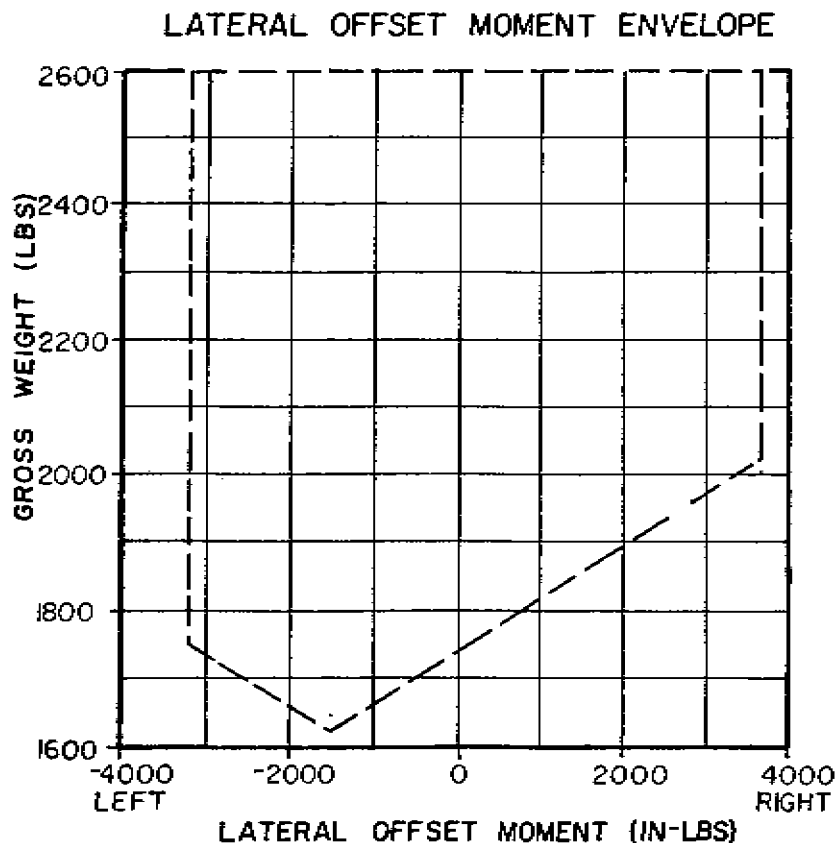
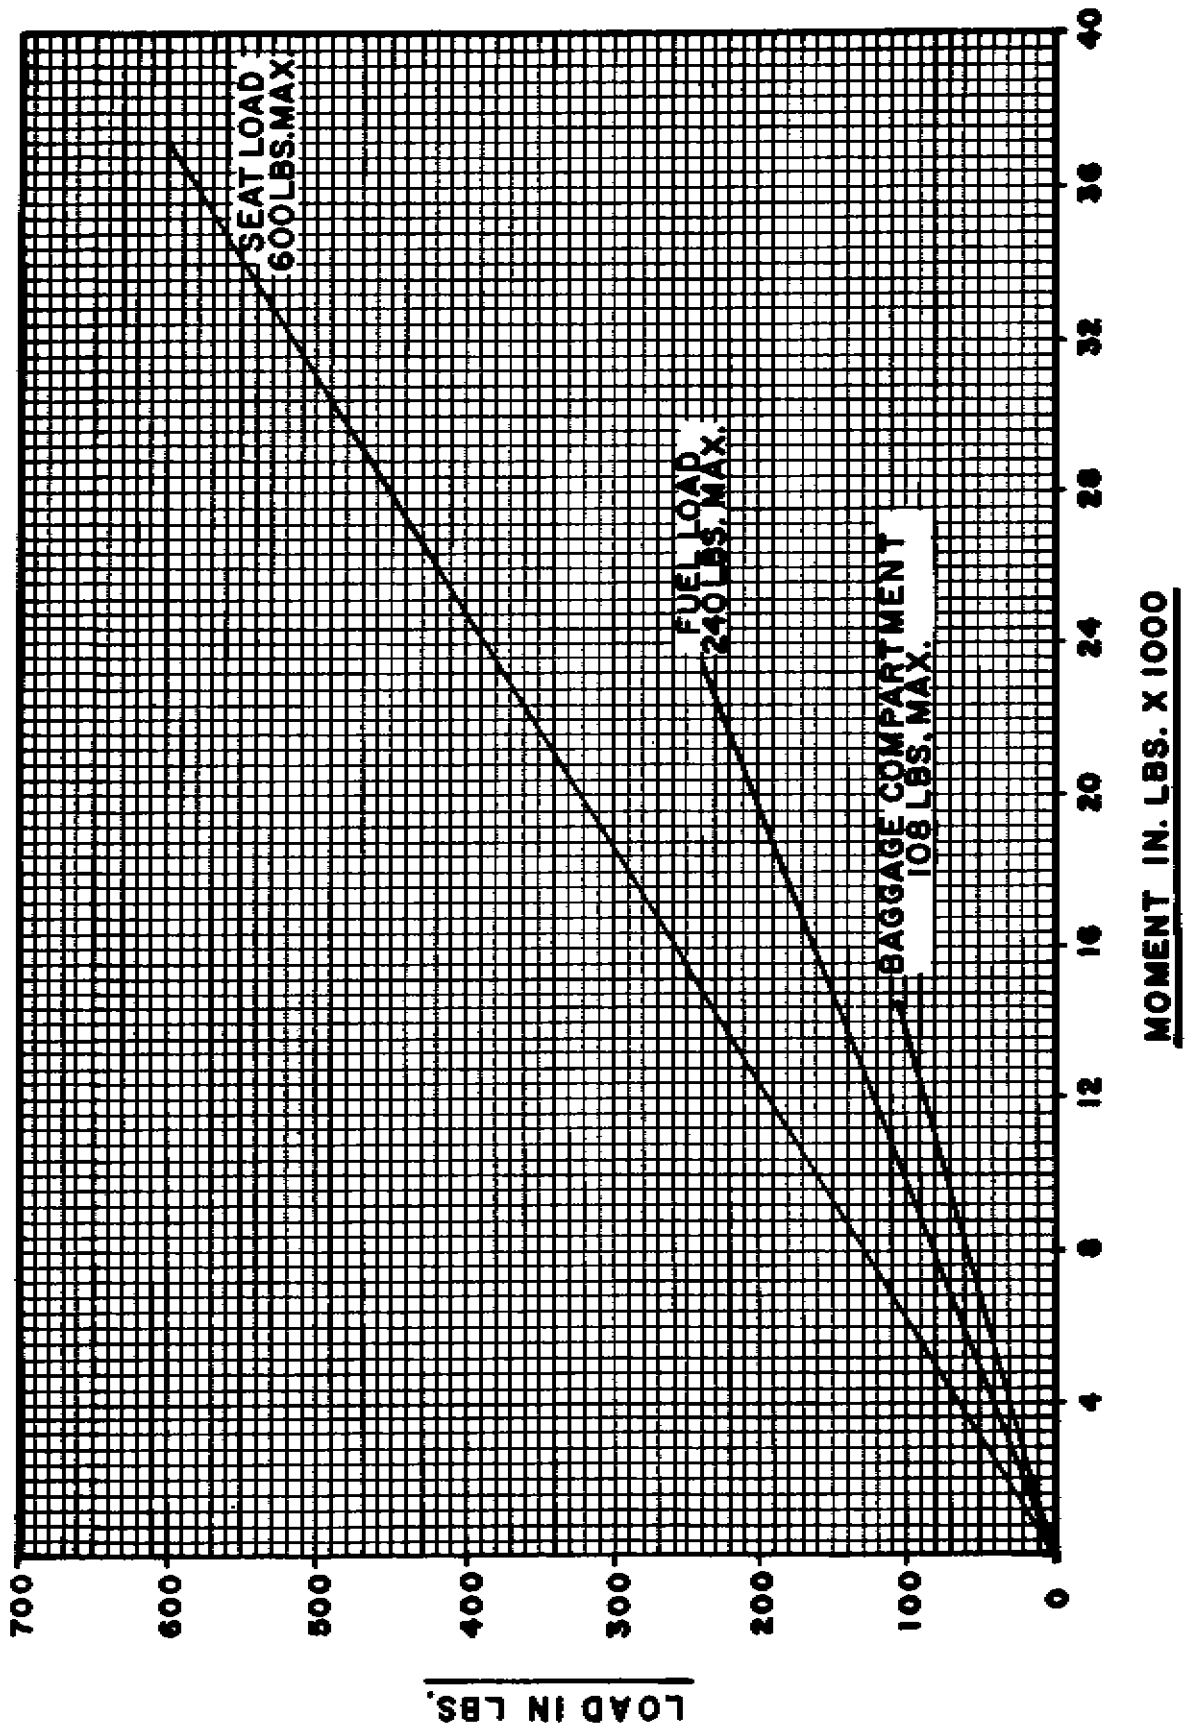

Figure 6.2
FIGURE 6.5
3. Approved lateral offset moments vary with gross weight from -3250 in-lb to +3700 in-lb (see chart, Figure 6.2). Lateral offset is the same for all  $V_{NE}$  envelopes.
- A. It is the responsibility of the helicopter pilot to insure that the helicopter is loaded properly. Using the running basic weight and moment from Form F-165A (Figure 6.8) and the Loading Chart (Figure 6.5), the pilot can obtain the total weight and moment for various loading conditions. The pilot should first calculate the total weight and moment for zero usable fuel, as this will show the c.g. shift with fuel burn-off. If the c.g. is within limits, add the planned fuel load and compute the c.g. If the c.g. is within limits, the last item to check is the lateral offset moment using the stations in Section II B and Figure 6.2.
(1) Moments obtained by multiplying weight times arm or from Loading Chart, Figure 6.5.
(2) The longitudinal c.g. relative to the datum line may be found by dividing the moment by the weight.